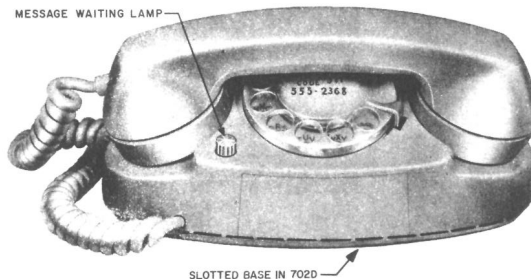

FIGURE 3 — 701D and 702D Telephone Sets Equipped With Message Waiting Lamp
- 5.01 The 703 (LR) 37 and 703 (LR) 38 telephones are very compact desk types of instruments with the addition of indicator lamps. A small neon lamp, located in front of the handset, may be caused to glow by applying a dc potential of 90 volts across the line at a remote point. The instruments are intended for use on PBX installations where the glowing lamp is used to indicate that a message has been left at the switchboard in the absence of the called party. (See Figure 3).